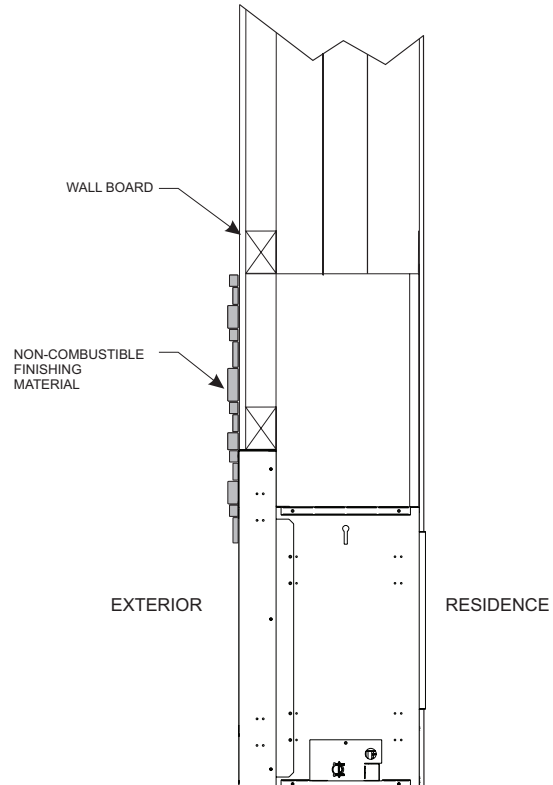

Figure 61
- 3b. Exterior non-combustible finishing material is placed over the face of the outdoor kit. See Figure 61.